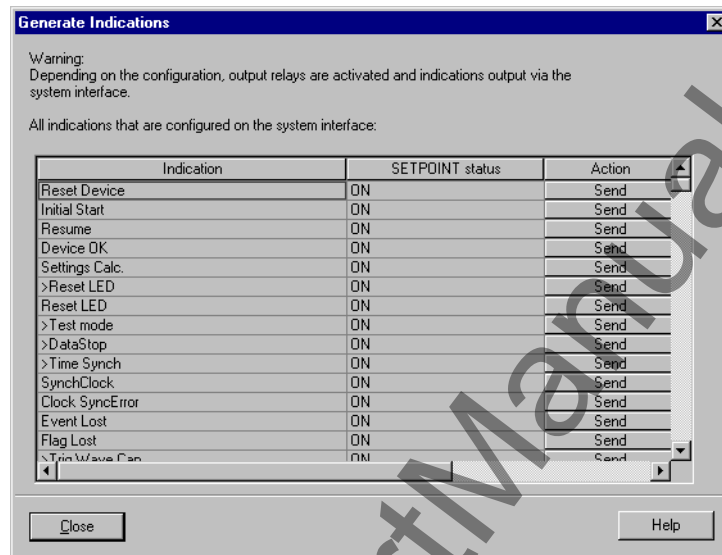

Figure 7-10 Dialog box Testing the system port – Example
- ❑ Double-click in the list **Generate Indications**. The dialog box **Generate Indications** is opened (see Figure 7-10, page 267).